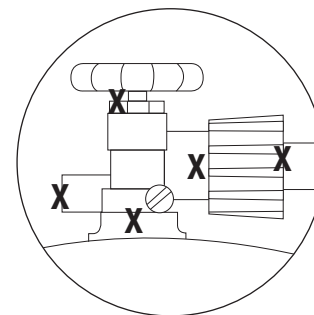

Figure 3
2. Make sure the control knobs is in the “OFF” position (Figure 3).
1. Make sure the control knob is in the “OFF” position (Figure 3).
2. Make sure control knobs are in the “OFF” position (Figure 3).
The control knobs must be in the “ OFF” position (Figure 3).